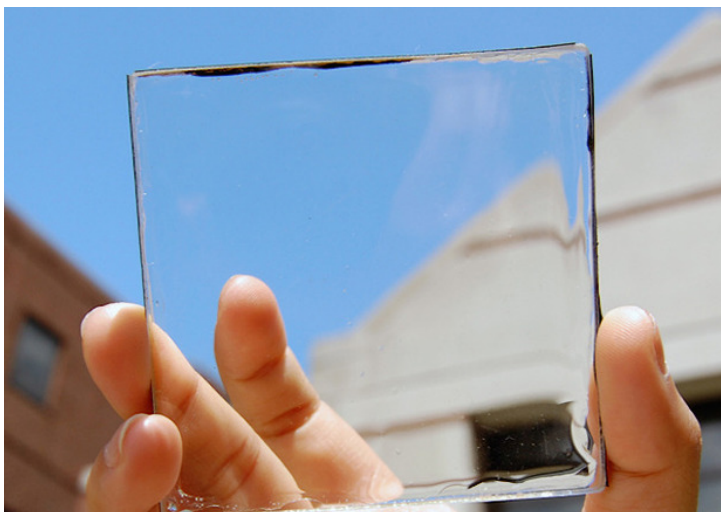

Figure 6: Transparency of Current Solar Windows
Solar windows have not been around for a long time. In fact, some of the very first solar windows were developed in Oxford in late 2013.16 However, initially, these solar powered windows were not colorless, nor were they efficient. They had a slight blue tint to the material, as shown in Figure 5 on the previous page, and were inefficient—only able to convert about 1% of the light energy into usable electricity, which is about one-fifth of the current industry standard.17 However, recent advances in this research has made the material transparent as seen in Figure 6 to the right.
In order for solar windows to be transparent, they must allow the visible wavelengths of light to pass through the material and absorb the remaining light that isn't visible to the human eye that interacts with the material. In order to absorb energy to produce electricity, the solar windows must absorb light in the part of the electromagnetic spectrum that isn't visible, namely, infrared (IR) and ultraviolet light (UV).18 The key component to the solar windows is the material of which they are made out of. The material that the solar windows are made out of in Figure 6 use